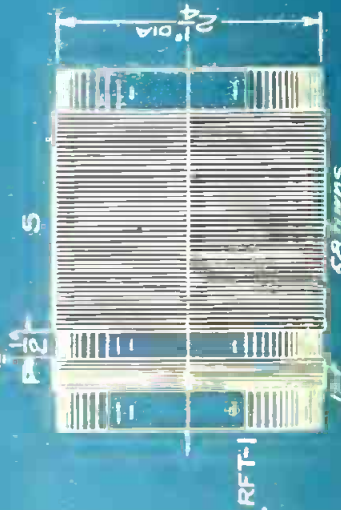

FIG. 1b
At RFT1 we have the usual aperiodic tuning coil with the primary (P) and the secondary (S) which is tuned by the 17 plate (0.00035 mf) variable condenser (C1) connected across the secondary in the conventional manner. A detail of this tuning unit is shown in Fig. 1B, which shows the principal dimensions. There are 58 turns on the secondary and 12 turns on the primary coil (P),